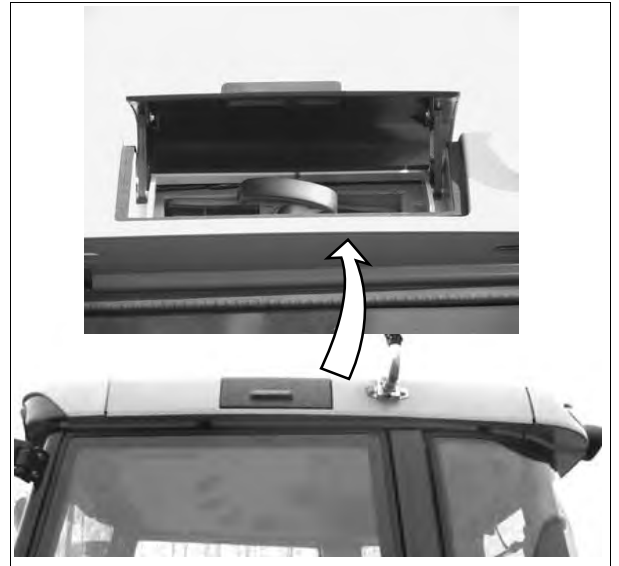

Fig. 2.
1. To gain access to the cab air filter, open the hatch on the left-hand side of the cab roof *fig. 2*.